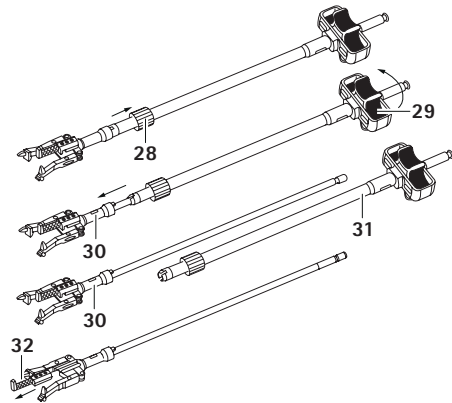
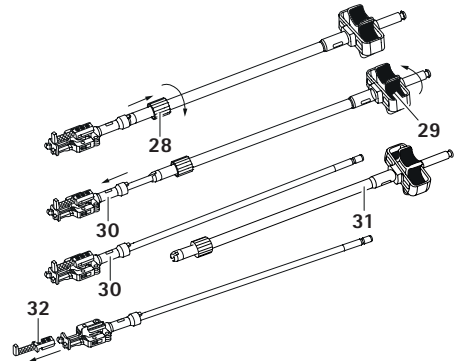

Fig. 5 Disassembling ME015R
Fig. 6 Disassembling SJ605R
- ▶ Remove the depth stopper **32** by pushing it distally parallel along the shaft until it disengages from its rail, see Fig. 5 and see Fig. 6.